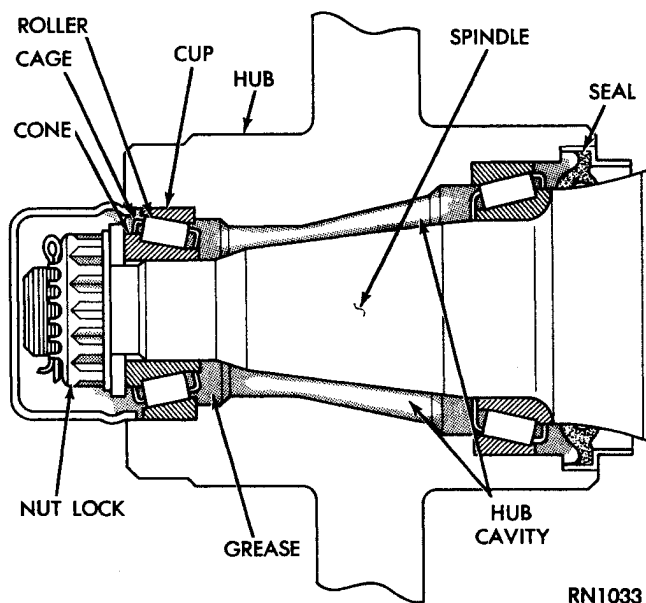

Fig. 1—Front Hub Area (Typical)
(1) Block brake pedal in the up position. Raise vehicle and remove wheel and tire assembly. Remove mounting bolts from caliper.
(2) Separate caliper from rotor. Support caliper out of the way. Do not allow caliper to hang by hydraulic hose.
(3) Remove grease cap, cotter pin, nut lock, nut, thrust washer, and outer wheel bearing.
(4) Carefully slide rotor from spindle (Fig. 1). Do not drag seal or inner bearing over steering knuckle thread (thread, bearing, and oil seal may be damaged). Remove oil seal and inner bearing.
(5) Thoroughly clean bearings and interior of